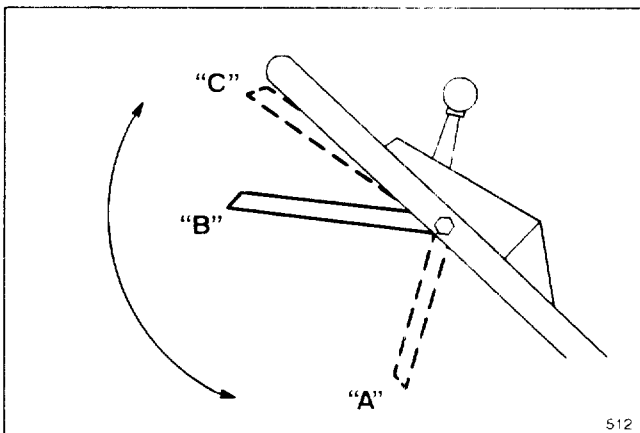

Figure 12
4. BLADE AND TRACTION OPERATION (Fig. 12)—When control bar is in position "A", slide control bar to right and raise to position "B" to engage blade. Squeeze control bar against handle to position "C" to drive. To disengage traction drive but keep blade engaged, gradually release control bar to position "B". To self-propel with blade disengaged, simply squeeze control bar against handle to position "C", without sliding control bar to right.